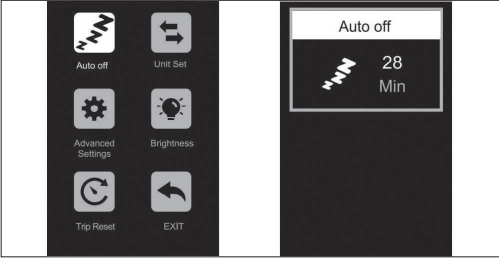

Figure 4-1
- Auto Off:** If you Enter this setting, you can adjust the automatic shutdown time, as shown in the (Figure 4-1).